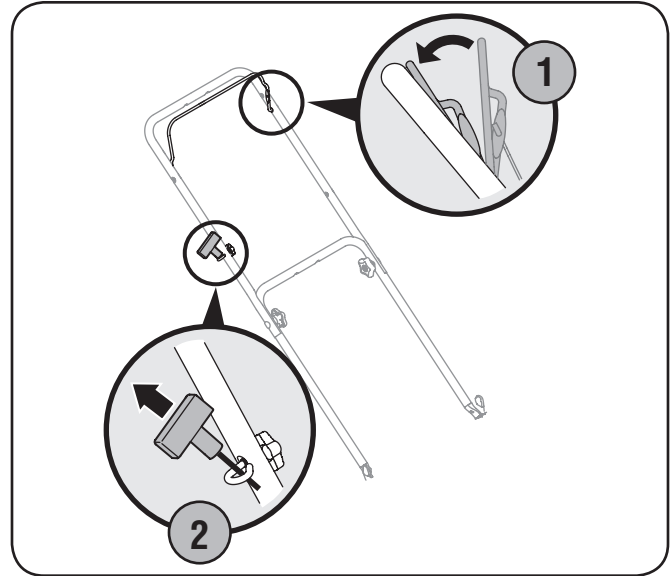

Figure 10-3
1. Standing behind the mower, depress the blade control handle and hold it against the upper handle. See Fig. 10-3.